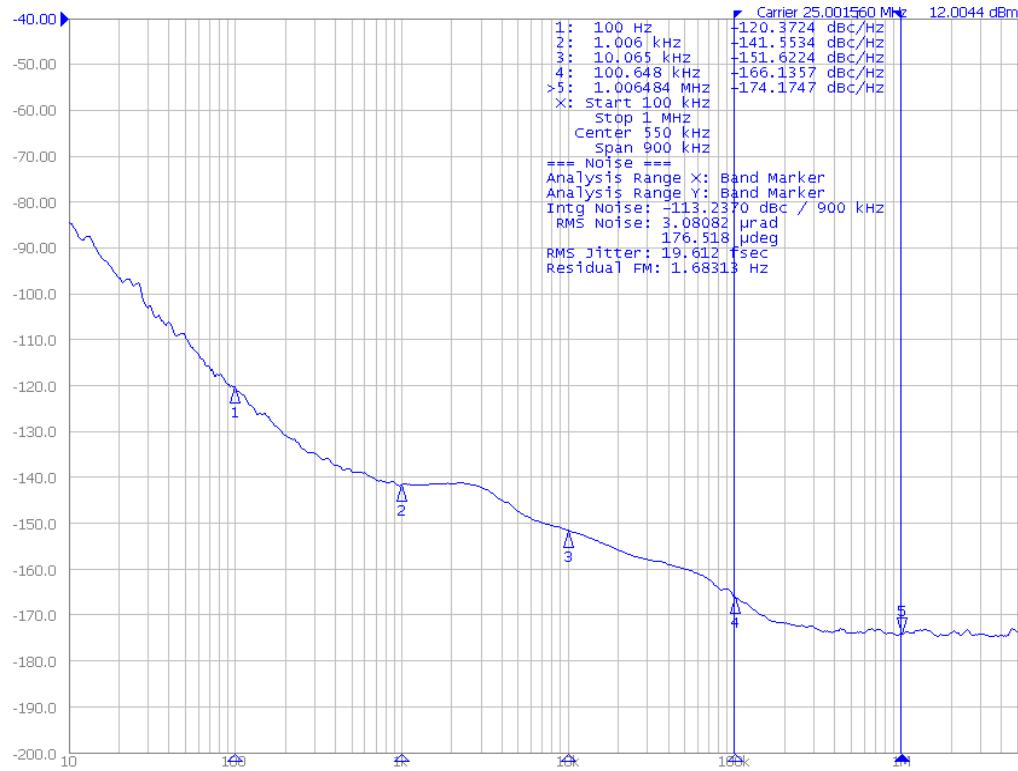

Figure 5. Typical Phase Noise Plot of the NB3H83905C Operating at 25 MHz $V_{DD} = V_{DDO} = 3.3$ V
- Parallel terminated 50 Ω to $V_{DDO}/2$ (see Figure 5).